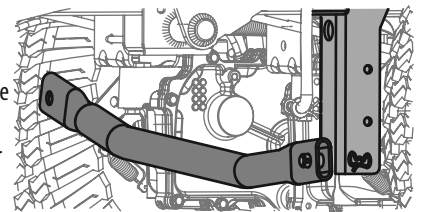

Figure 50
- b. Remove the bow-tie cotter pin on the left side of the bar, connecting the bar with the bracket on the frame. See Figure 50.